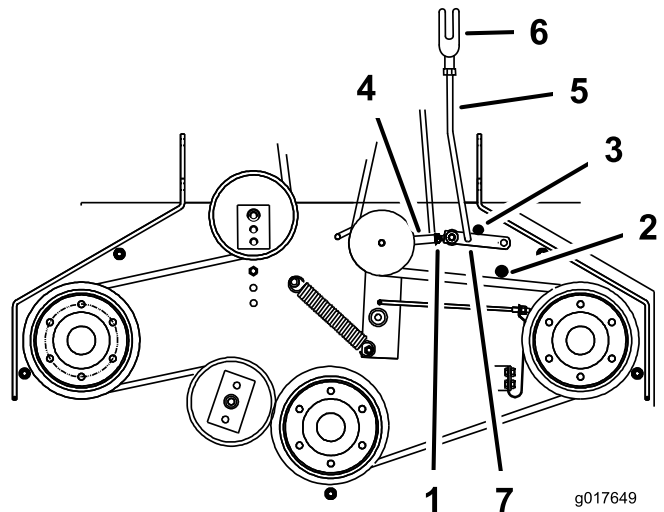

Figure 51
5. Make sure the assist arm is against the rear assist arm stop on the deck (Figure 51).
7. The assist arm should contact the front assist arm stop on the deck. If it does not contact, adjust the bellcrank so it is closer to the gusset (Figure 51).
8. To adjust the assist arm link, remove the hairpin cotter pin from the assist arm (Figure 51).
11. Install the assist arm link into the assist arm and secure it with the hairpin cotter pin (Figure 51).